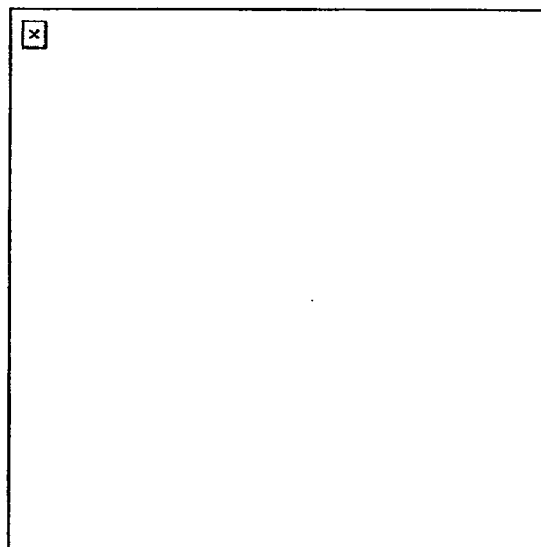

Figure 191-381-1369-7
- (1) Team member number 2.
- (d) Watch for and respond to the nonverbal commands of team member number 1 (Figure 191-381-1369-7).